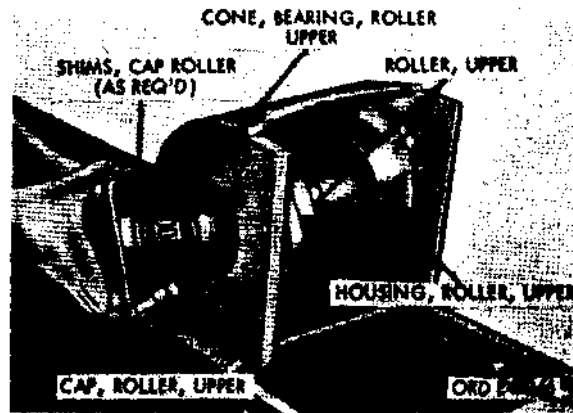

Figure 458. Removing upper roller cap, shims and bearing
- (g) Remove four cap screws and lockwashers from upper roller cap. Remove upper roller cap, shims, and bearing cone from upper roller bushing (fig. 458). Remove opposite cap and bearing in same manner.
- (h) Remove upper rollers (fig. 458) and upper roller pin from housing. Slide upper rollers and upper roller shims from pin. Do not remove upper roller bearing cap from roller unless inspection warrants replacement.